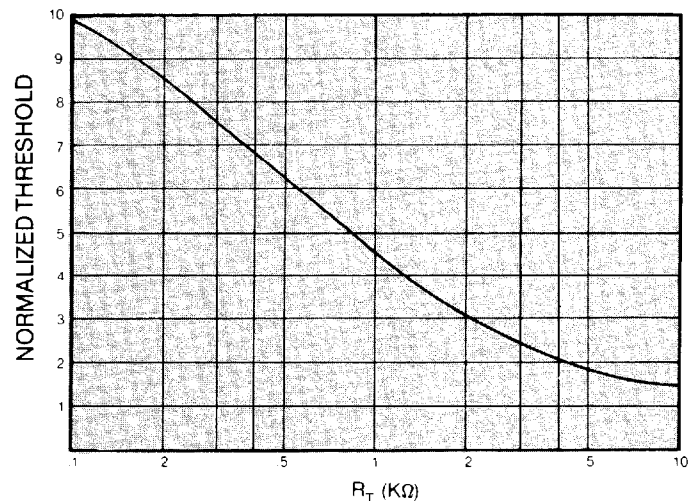

Figure 1 — Threshold vs. R_T
THRESHOLD: Model A-111 has a nominal threshold referred to the input of 8×10^{-15} coulomb. This is equivalent to 5×10^4 electrons. The threshold can be increased by the addition of a resistor between Pins 7 and 8. Shorting these Pins together produces the maximum increase (approximately 10X). See Figure 1.
- Pin 7 provides a positive analog pulse output from the preamplifier section just prior to the discriminator with a rise time of about 100ns. See photo above. At maximum sensitivity (no feedback resistor between Pins 7 and 8) the amplitude of this pulse is proportional to the input charge, $A = 2.5$ V/pC. At threshold this will correspond to a 20 mV pulse. If a feedback resistor is used between Pins 7 and 8, the size of the analog pulse will be divided by the same threshold attenuation factor the feedback resistor produced (Figure 1.) Example: If a 3k Ω feedback resistor is used, the size of the analog pulse will be 1 V/pC. This output must be capacitively coupled to external circuitry and can be used to perform pulse height analysis. Near threshold, however, the shape of the analog pulse will be effected by the firing of the discriminator.
The A-111 will respond to a negative pulse of 8×10^{-15} coulombs or greater. The threshold may be increased by the connection of a resistor between Pins 7 & 8. Approximate values are given in Figure 1.